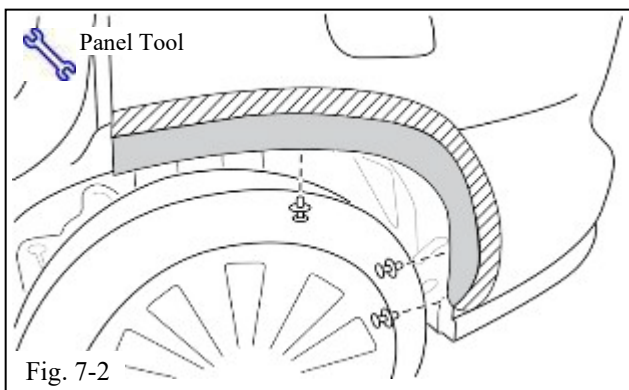

Fig. 7-2
- (b) Using clip removal tool, remove three (3) clips (Fig. 7-2).